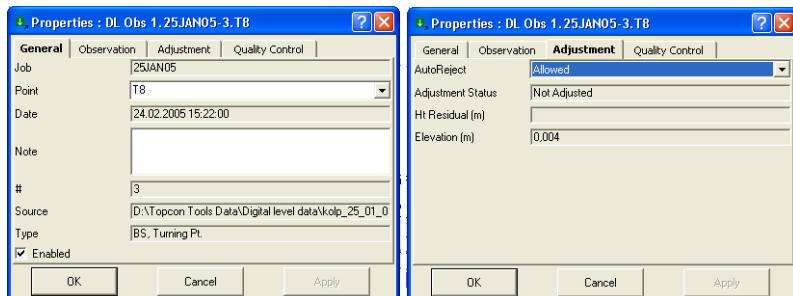

Figure 5-112. General and Adjustment Properties
- Edit the *Point* and *Note* in the *General* tab and *AutoReject* in the *Adjustment* tab as needed (Figure 5-112).
2. View or edit *General* tab fields (Figure 5-112 on page 5-78). Edit the *Point To*, *Distance*, *Notes*, and *#* parameters as needed.